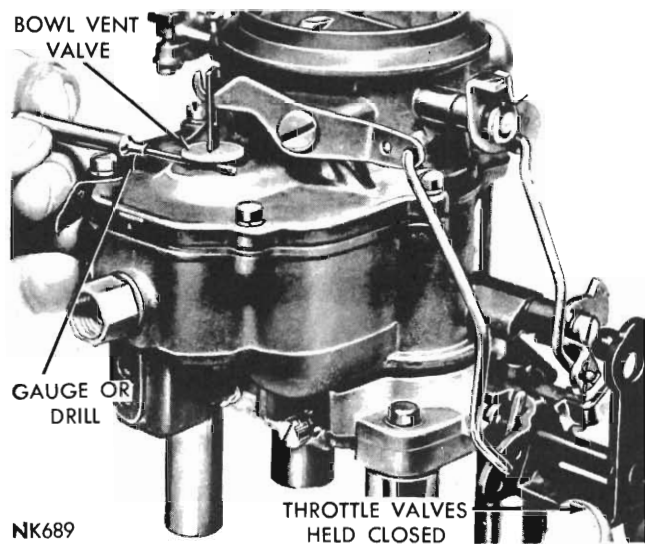

Fig. 11 – Measuring bowl vent opening (Typical).
(1) Back off the idle speed adjusting screw. Open the choke valve so that the fast idle cam allows the throttle valves to be completely seated in the bores.
(2) Be sure the pump operating rod is in the medium stroke hole in the throttle lever, and the inner hole of the pump arm, and that the bowl vent clip on the pump stem is in the centre notch.
(3) Close the throttle valves tightly. It should be just possible to insert a .060" drill between the bowl vent and its seat, as shown in *Fig. 11*.